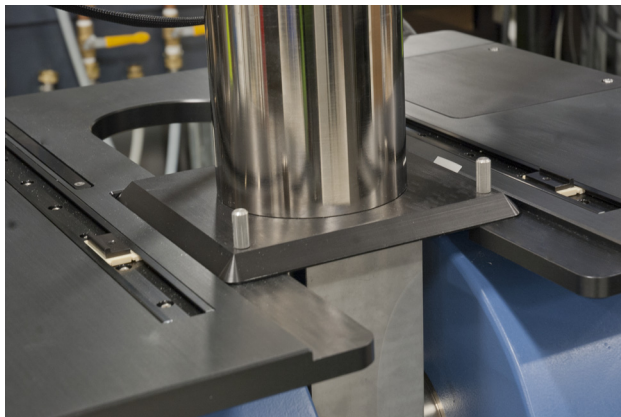

FIGURE 4-31 *Oven in the measurement position*
4. Move the oven module into the measurement position (FIGURE 4-31):